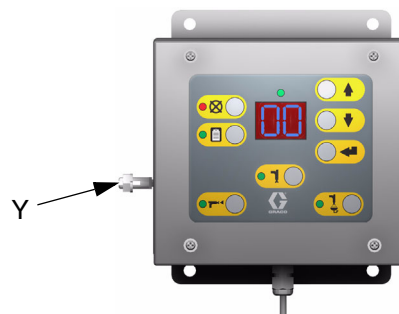

FIG. 24
Connect a ground wire from the Operator Station ground lug (Y) to a true earth ground. FIG. 24.